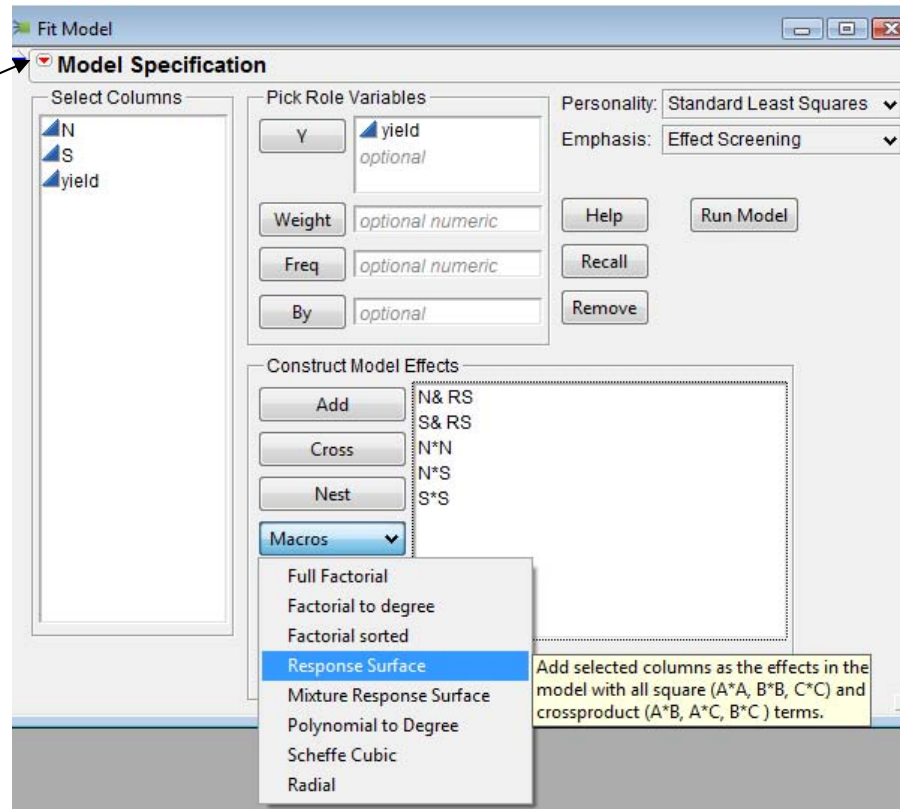
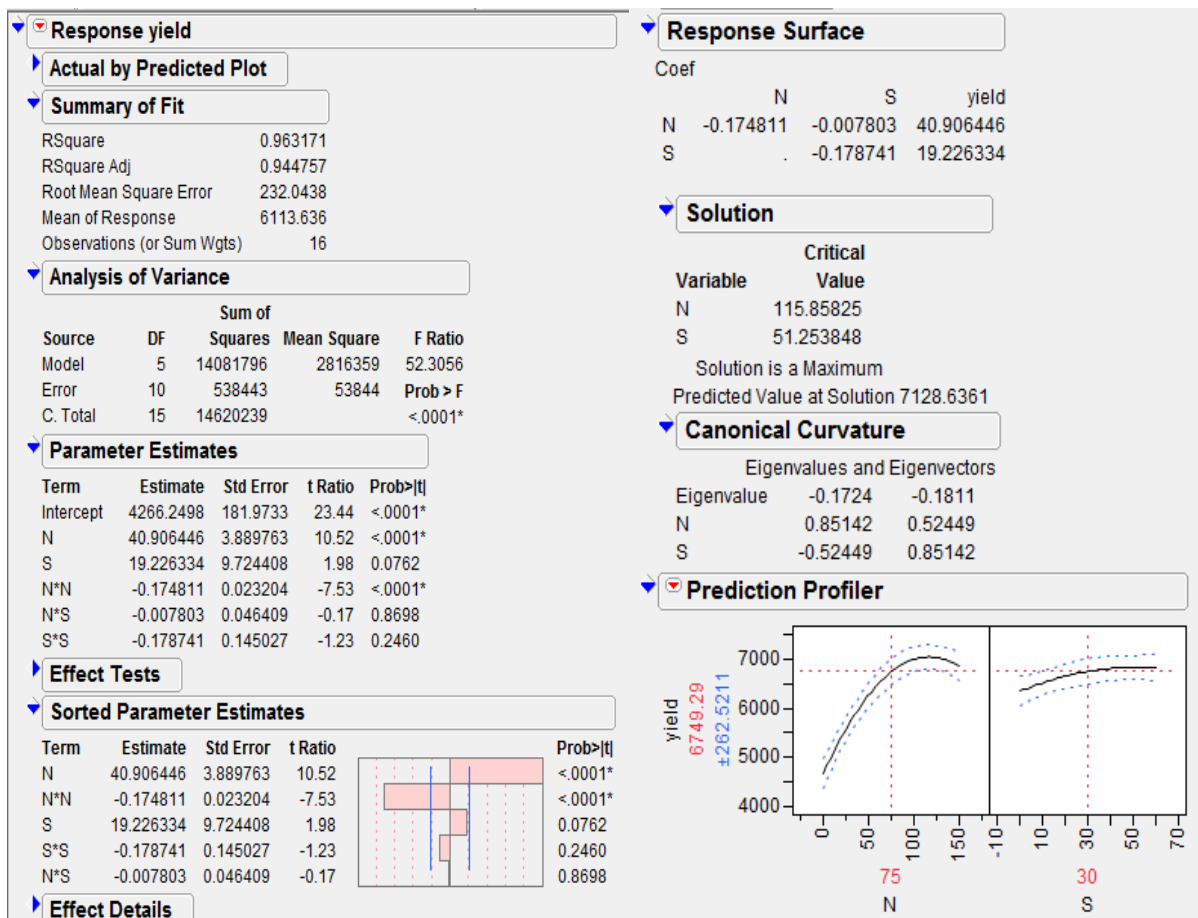

Figure 5.13.1: Response Surface Dialog Box
Figure 5.13.2: Response Surface Design Output
3. Put yield → **Y**. Select N and S from **Select Column** list, click **Macros** → **Response Surface**. *An important thing to note that by default, JMP does the coding on quantitative variables. To avoid that click on hotspot button on the left of Model Specification and uncheck Center Polynomials.* The window will look as shown in Figure 5.13.1. Click **Run Model**. See the output as shown in Figure 5.13.2.